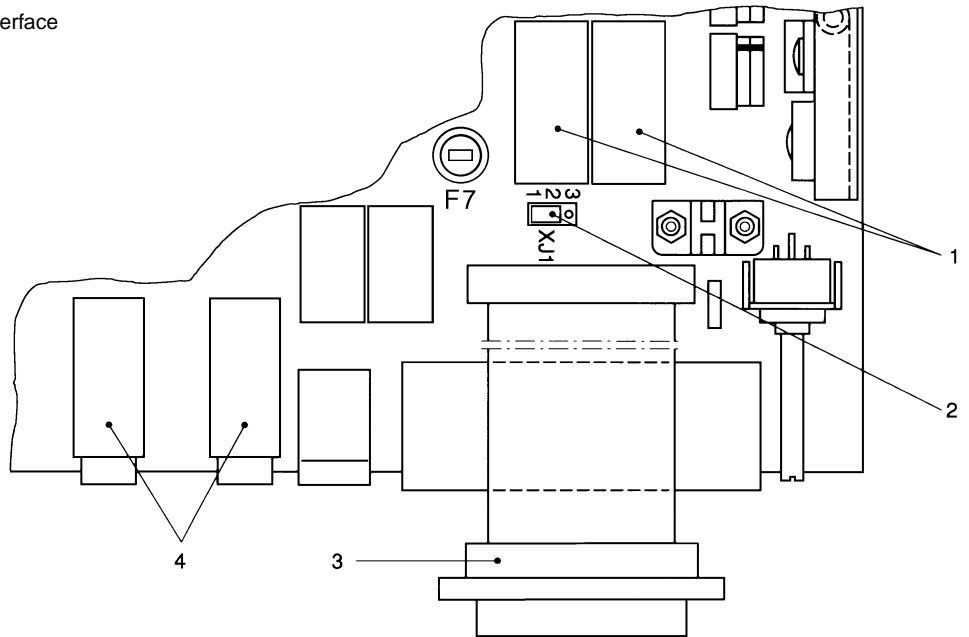

Fig. 14 Position of the jumper for the relay failure; top view into the TURBOTRONIK
The reference voltage is protected by the fuse F7. Position of the fuse see fig. 14. For changing the fuse open the TURBOTRONIK as described in section 2.9.
**Key to Fig. 14**